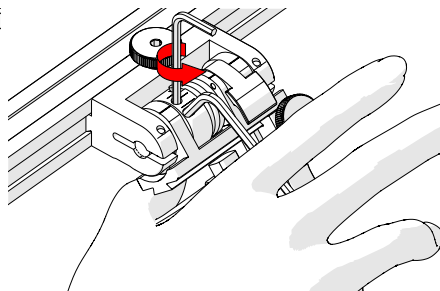

Fig. 165 - Press 3 mm hex wrench down
5. Lightly press the long arm of the 3 mm hex wrench down. Using the 2 mm hex wrench, loosen the force adjustment screw but do not remove it (Fig. 165).